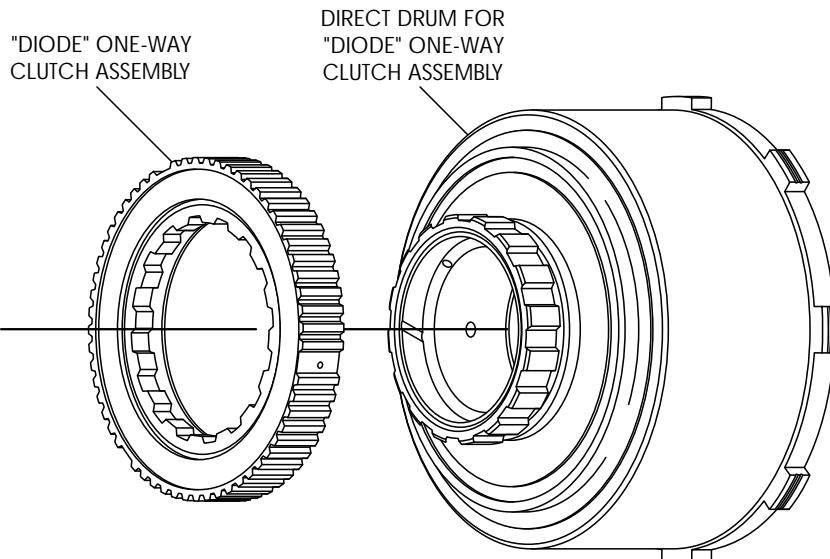

Figure 108
17. Measure the forward clutch clearance between the selective snap ring and the backing plate, as shown in Figure 108.
19. Change the selective snap ring as necessary to obtain the proper clearance (See Figure 108).